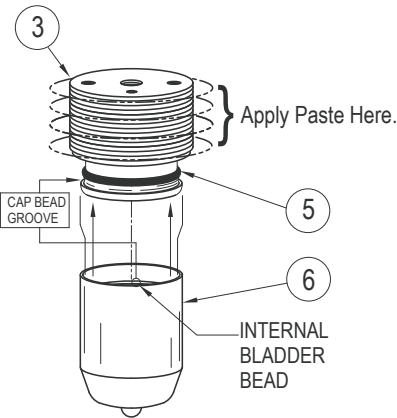

FIGURE 6
4. If bubbles occur around dampener cap threads, remove all dampener pressure, remove dampener cap and make sure the bladder/bellows is properly seated on the cap and that both the cap and internal body O-rings are properly installed and not damaged (FIGURES 6, 7 & 9).